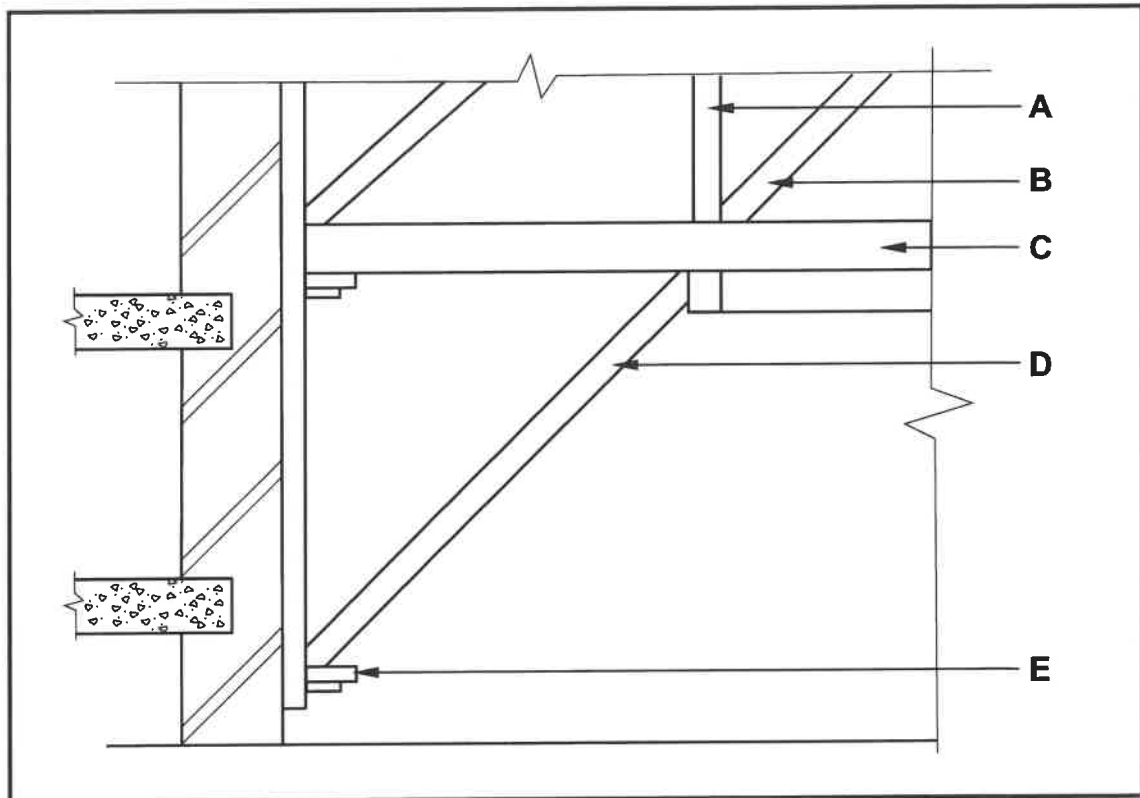

FIGURE 5.3
- 5.3 FIGURE 5.3 below shows a sectional view through a part of a double-flying shore. Label parts **A** to **E**.